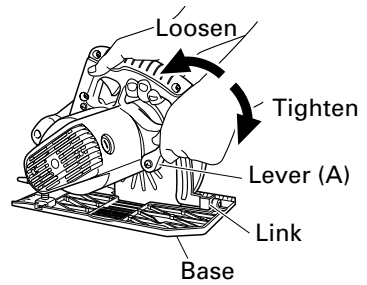
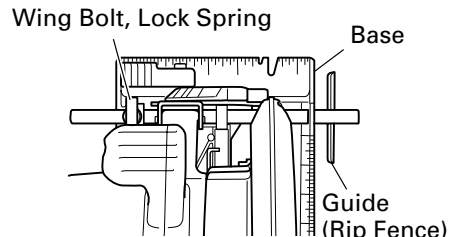

Fig. 10
Fig. 13
7. Check if lever (A)s are tightened.
If the lever (A) to adjust cutting depth (Fig. 10) and lever (A) to adjust angle of inclination (Fig. 13) are loose, injury can result. Make sure that they are tightened securely.
1. Adjusting the cutting depth (Fig. 10)
The cutting position can be regulated by moving the guide to the left or right after loosening its wing-bolt. The guide may be mounted on either the right or left side of the tool. (See Fig. 13)